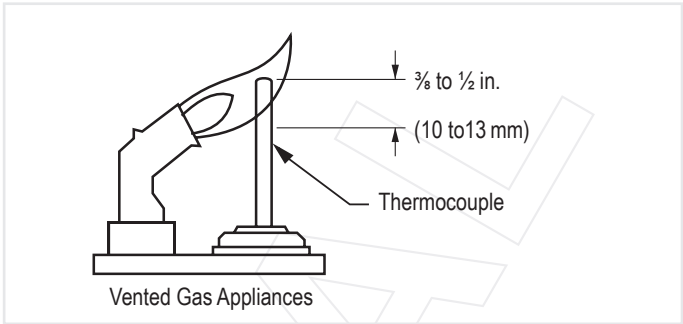

Figure 16: Proper Flame Impingement on Thermocouple
1. Connect a pressure manometer to the valve outlet pressure tap. Pressure tap is opened by turning the screw counterclockwise ↺. Pressure regulator or throttle are located under the cover and can be reached by removing the plug (see figures 16 and 18).
The pilot flow adjustment is preset to maximum at the factory. The pilot flame should envelope 3/8" to 1/2" of the thermocouple – vented only (see figure 16).